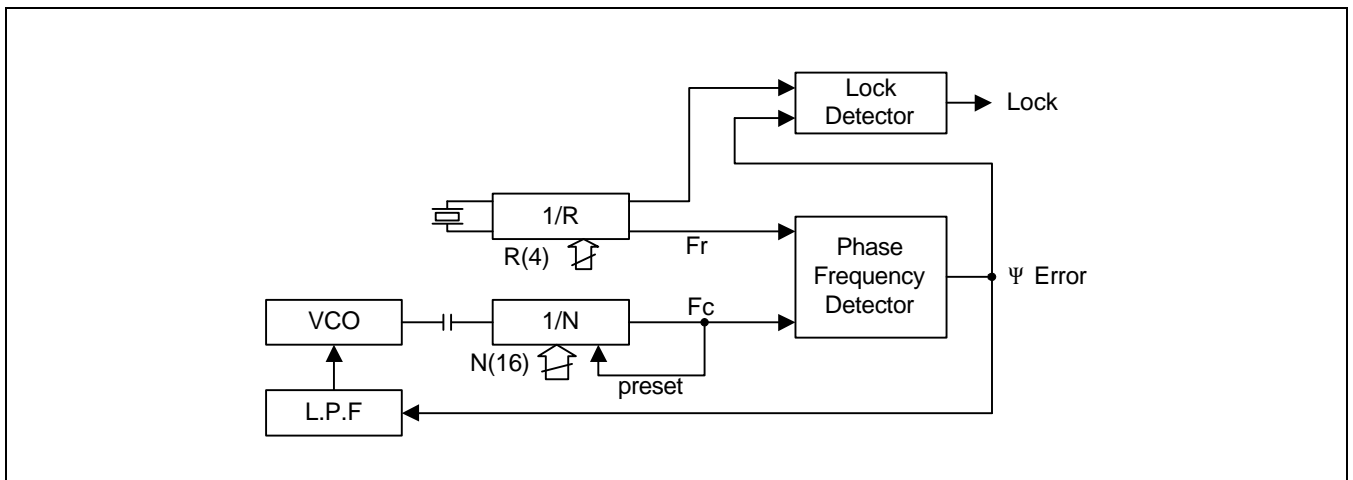

**Figure 12. PFD and PD Output Relationship**
- ◆ reset Fc and Fr counter(Figure. 12 A) and change PFD in state 2
- ◆ After new data is latched, accurate  $\psi$  Error can be reflected on the first phase error(Figure. 12 B)